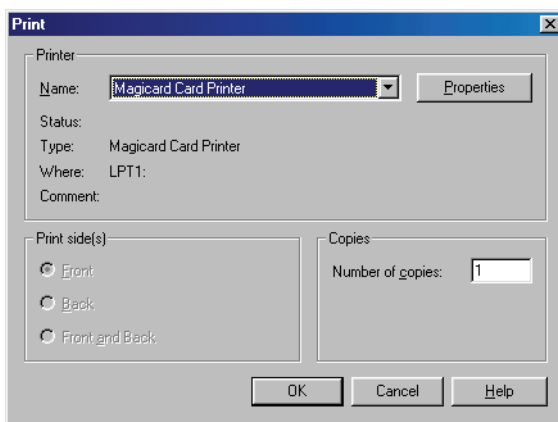

Figure 9-5: The Print Window
2. Click the File ⇒ Print pull-down menu option. The Print window appears (see Figure 9-5).